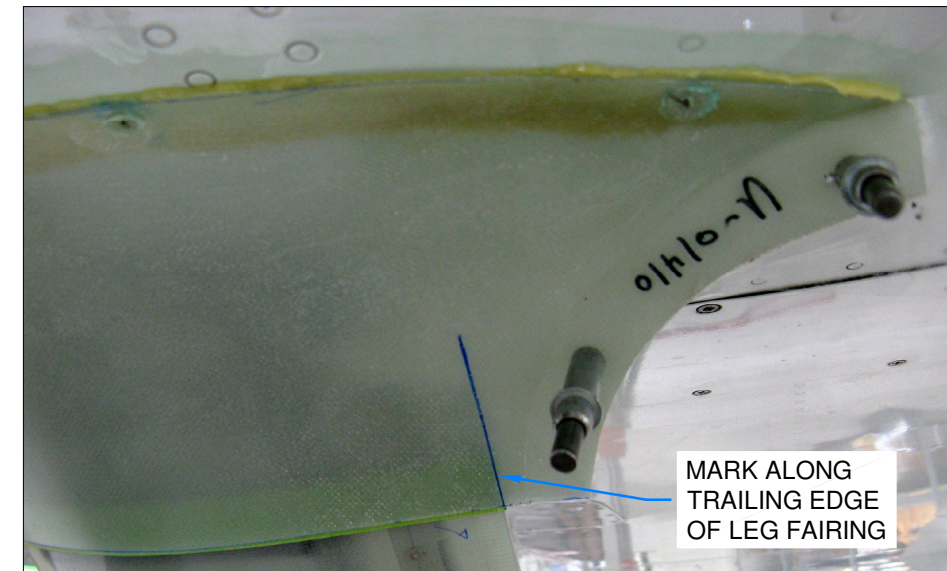

FIGURE 3: UPPER INTERSECTION FAIRING
Step 5: Use a straight edge to mark the location of the leg fairing trailing edge on the upper and lower surfaces of the upper intersection fairing as shown in Figure 3.